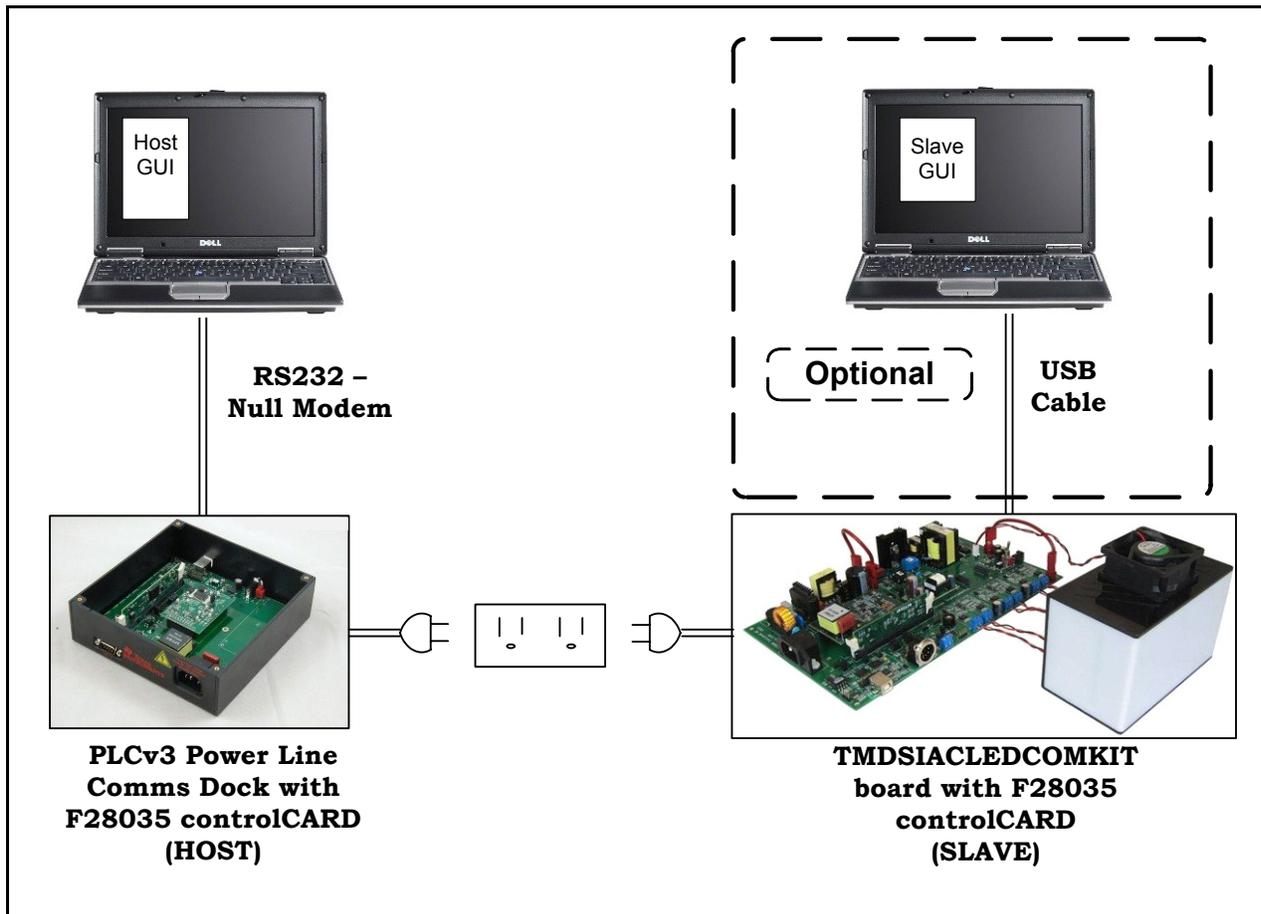

Figure 2: PLC System Diagram
Listed below in Figure 2 are some of the major connectors and features of the AC LED Lighting & Communications (TMDSIACLEDCOMKIT) board.
- 1) Move or place the following jumpers on the TMDSIACLEDKOMKIT board (refer to Figure 2):